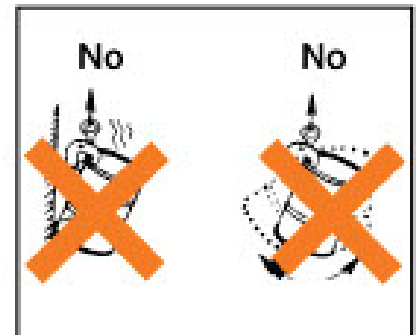

Figure 60
**WARNING!** Take up slack slowly. Do not bounce or jerk load (Fig. 60).